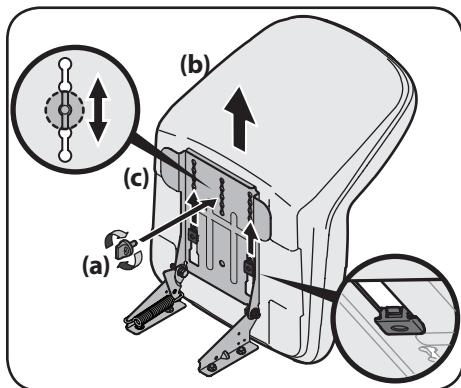

Figure 2-6
- Slide the seat (b) rearward in the seat pivot bracket (c), lining up the center rear slot in the seat pivot bracket (c) with the remaining hole in the seat (b) base. See Figure 2-6.
NOTE: Be certain the two seat tabs engage the seat pivot bracket as shown in the bottom right inset of Figure 2-6.
- Select the desired position for the seat (b), and secure with the adjustment knob (a) removed in Step 1. See Figure 2-6.
- To adjust the position of the seat, remove the adjustment knob (a) on the bottom of the seat (b). Slide the seat (b) forward or backward as desired. Reinstall the adjustment knob (a). See Figure 2-6.